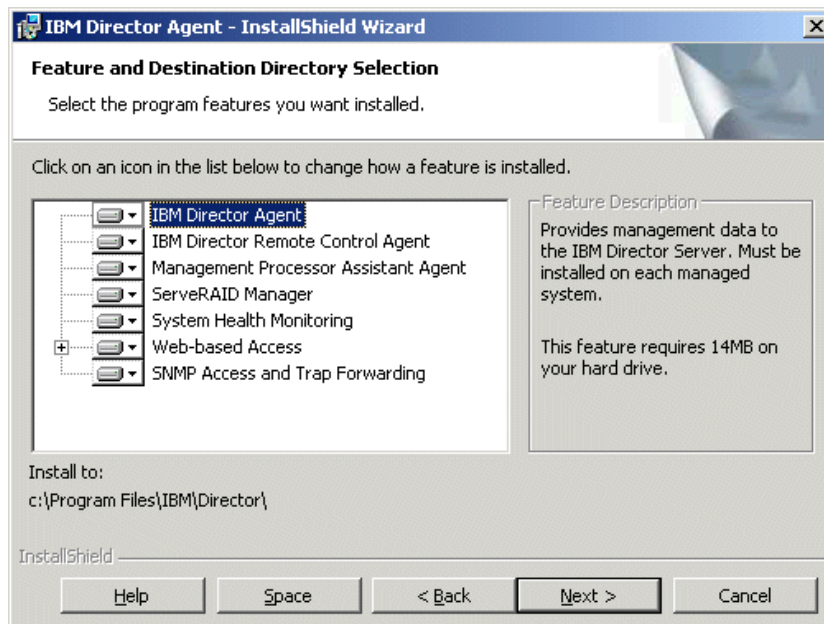

Figure 4-15 Features and Destinations window
5. The License Agreement window opens. Click **I accept the terms of the license agreement** and click **Next**. You will see a window similar to Figure 4-15.